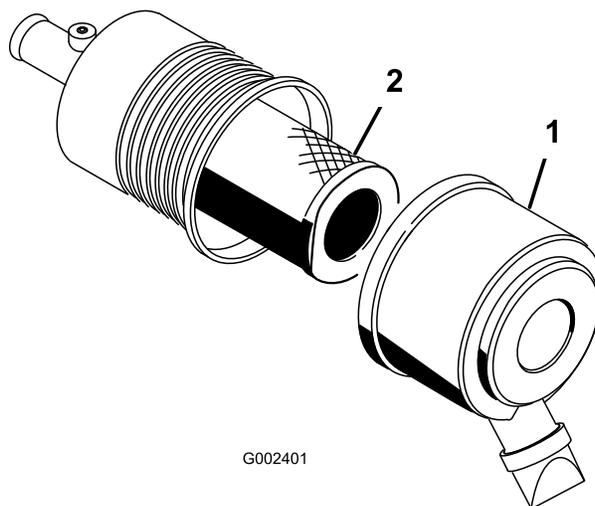

Figure 47
7. Install the cover orienting the rubber, outlet valve in a downward position, between approximately 5 o'clock to 7 o'clock when viewed from the end (Figure 47).